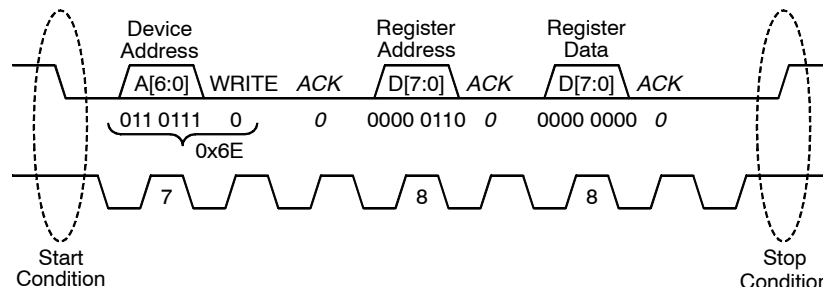

Figure 21. I²C Write Command
Figure 21 shows an I²C write operation. Write transactions begin with the master sending an I²C start sequence followed by the seven bit slave address (NOA3301 = 0x37) and the write(0) command bit. The NOA3301 will acknowledge this byte transfer with an appropriate ACK. Next the master will send the 8 bit register address to be written to. Again the NOA3301 will acknowledge reception with an ACK. Finally, the master will begin sending 8 bit data segment(s) to be written to the NOA3301 register bank. The NOA3301 will send an ACK after each byte and increment the address pointer by one in preparation for the next transfer. Write transactions are terminated with either an I²C STOP or with another I²C START (repeated START).